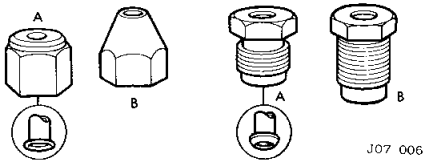

Fig. 6
**NOTE:** In Figs. 6 to 9, A indicates the metric type and 'B' the UNF type.
The metric female nut is **always** used with a trumpet flared pipe and the metric male nut is **always** used with a convex flared pipe (Fig. 6).